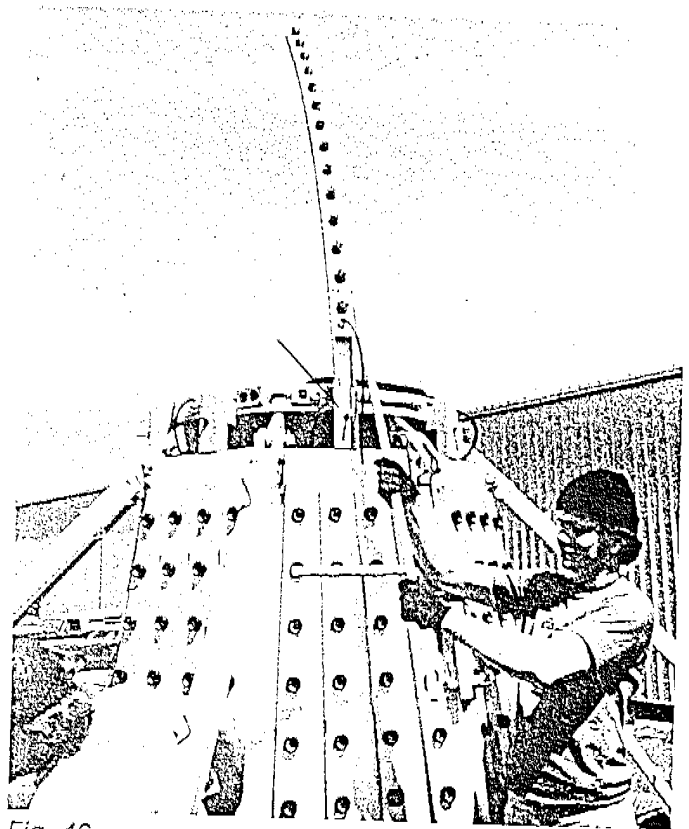

Fig. 46
- d. Install the leg at the base of a dome light in a socket at the top of the cone. Secure in place by tightening the set screws. (Fig. 46)